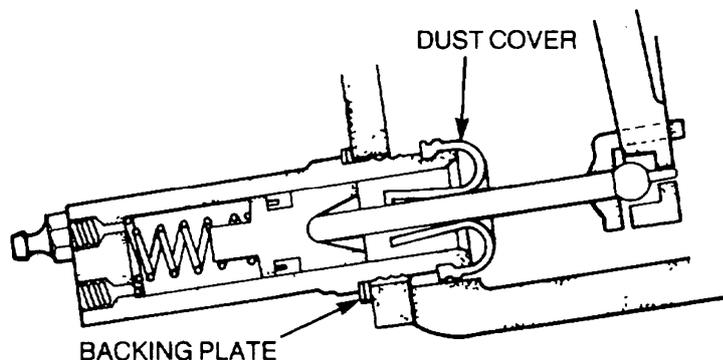

Figure 56 Clutch Slave Cylinder Installation
- c. Install the cylinder into the bell housing ensuring the push rod is inserted into the dust cover and the bleed screw is uppermost (Figure 56).